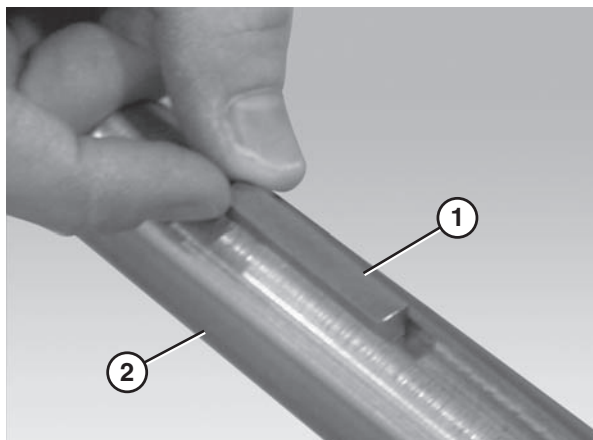

Figure 62
7. Insert the motor output shaft key (**Figure 62, item 1**) into the motor output shaft keyway (**Figure 62, item 2**).